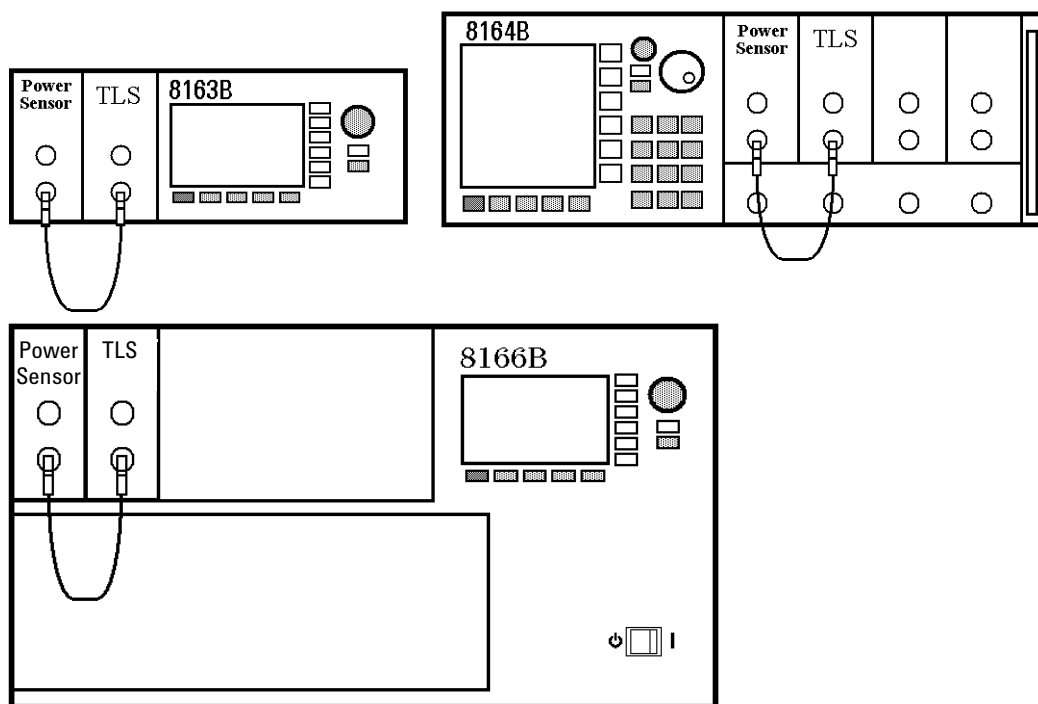

Figure 25 Connecting the Instrument for the Sample Session
- 3 Connect the output of the Laser Source to the input of the Power Sensor module, as shown in Figure 25 . You must connect the correct fiber end connector for your Tunable Laser module: